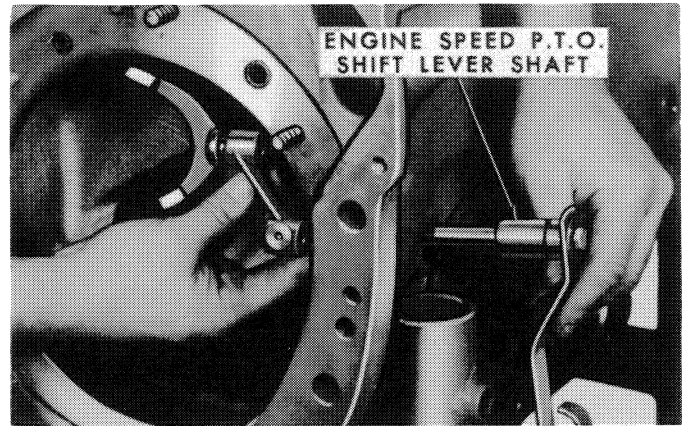

Figure 73
1. Install the P.T.O. shifter lever and secure with the clevis pin and cotter pin. See Figure 73.